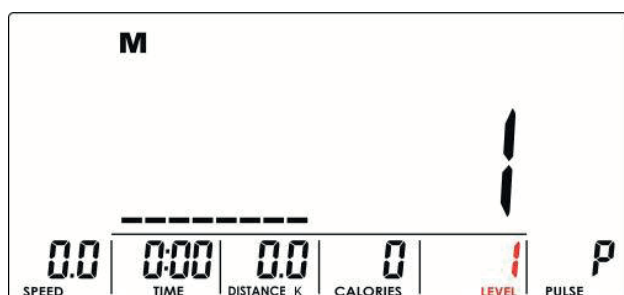

Fig. 4
2. Set the resistance level with the jog dial (fig. 4) and confirm with MODE. The default value is 1.